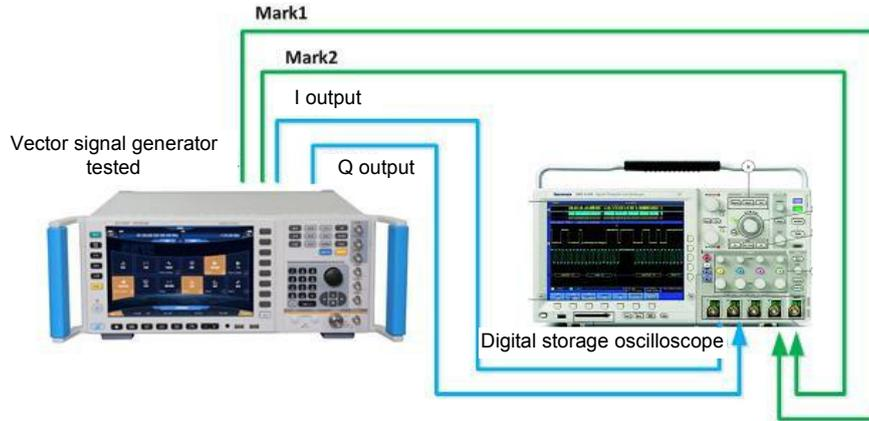

Fig.3.20 Trigger Test
##### Step 1. Connect the instrument as shown in Fig.3.20.
**Step 1. Connect the instrument as shown in Fig.3.20.**